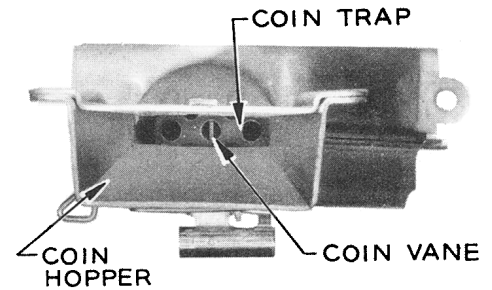

Fig. 10 — Position of Vane when Relay Is Centered
4.11 When mounting relay center it so that with operating arm in its normal vertical position fork slot engages vane stem and holds coin vane in a vertical position. Full thickness of coin vane is visible in the center hole of coin trap (Fig. 10). If relay cannot be centered, replace relay. If replacing relay cannot be centered, replace coin collector.